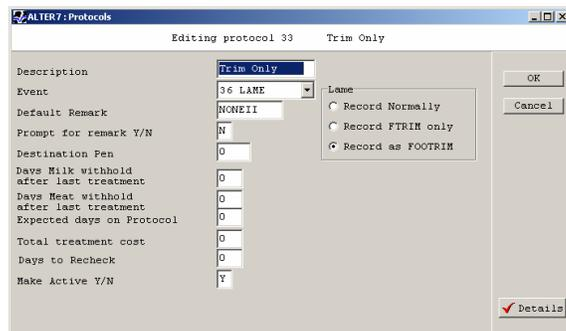

FIGURE 4
3. In Dairy Comp, to setup the **Trim Only** result to show up in the cowcard as a **FOOTRIM** event, access **ALTER>Option 7 Protocols**, and find the **LAME** protocol called **Trim Only**. Double-click on it to edit the protocol (Figure 4). Make sure that '**Record as FOOTRIM**' has a dot beside it. Click **OK** to save.